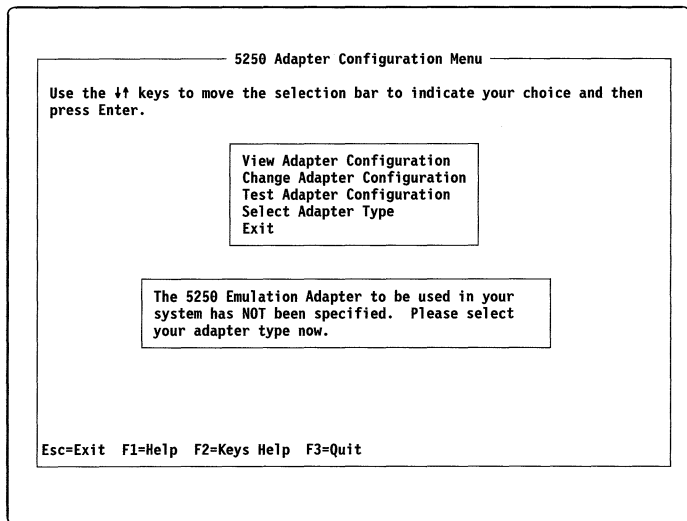

Figure 16. 5250 Adapter Configuration Menu
3. Answer the configuration questions by pressing Y or N. The 5250 Adapter Configuration Menu, similar to the one shown in Figure 16, appears.